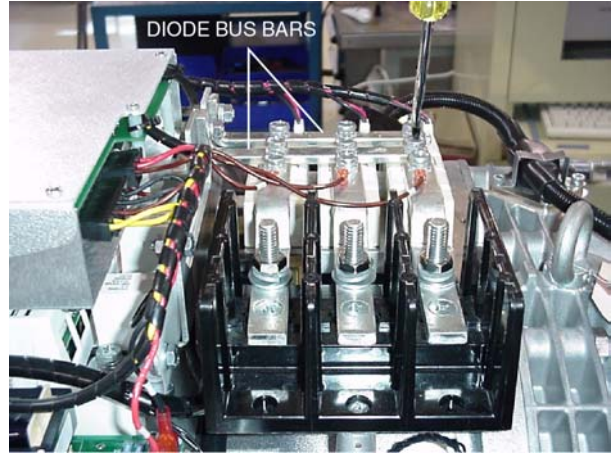

Figure 6-12 Removing the Diode Bus Bars
4. Remove the six Phillips-head screws that secure the (+) and (-) diode bus bars to the rectifiers. Refer to Figure 6-12.